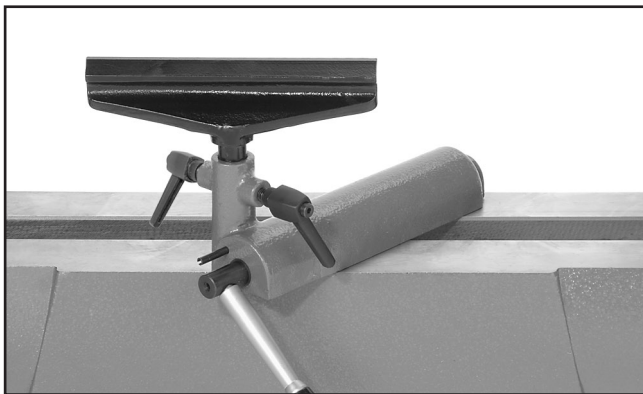

Figure 7. Tool rest installed.
3. Insert the tool rest into the shaft and turn the handles to lock it as shown in **Figure 7**.